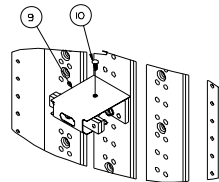

Figure 5
6. Reference fig. 5 - Attach the barrier (item 9) to B-phase strap. Insert the Christmas tree rivet (item 10) through the 0.25" diameter hole in the barrier and into the 0.156" diameter hole in the B-phase strap. Push for a tight fit.